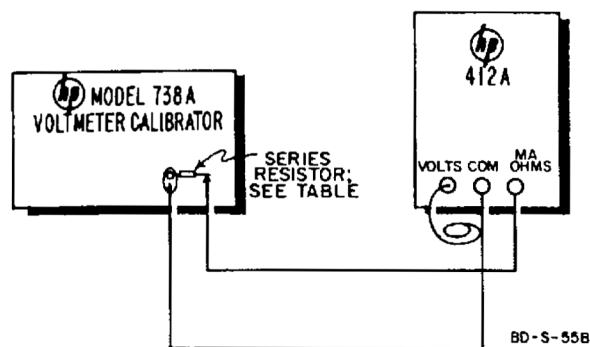

Figure 4-2. Equipment Setup for Current Check
c. Connect 412A to Voltmeter Calibration Generator as shown in figure 4-2.